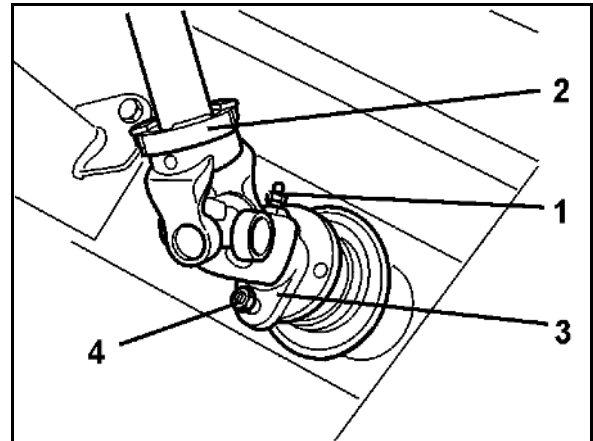

Fig. 95
2. Open the dosing slider with the setting lever (Fig. 95/1).
4. Swivel the setting lever on the scale (Fig. 95/3) until it stops at the pin.
5. Secure the setting lever with the rotary handle (Fig. 95/2).
6. Release the hexagon screw (Fig. 95/6). Align the pointer (Fig. 95/5) to "8" on the scale and secure with the hexagon screw. Read-off edge of the pointer is (Fig. 95/4).